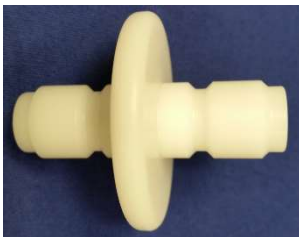

Figure 1.
- d. Allow the water to drain out of the unit via the water hoses with the aid of the hose connector (Fig.1) until the unit and the water hoses are completely clear of water.
- e. Once the tank and water hoses are clear of water, reconnect both hoses together via the hose connector, figure 1.